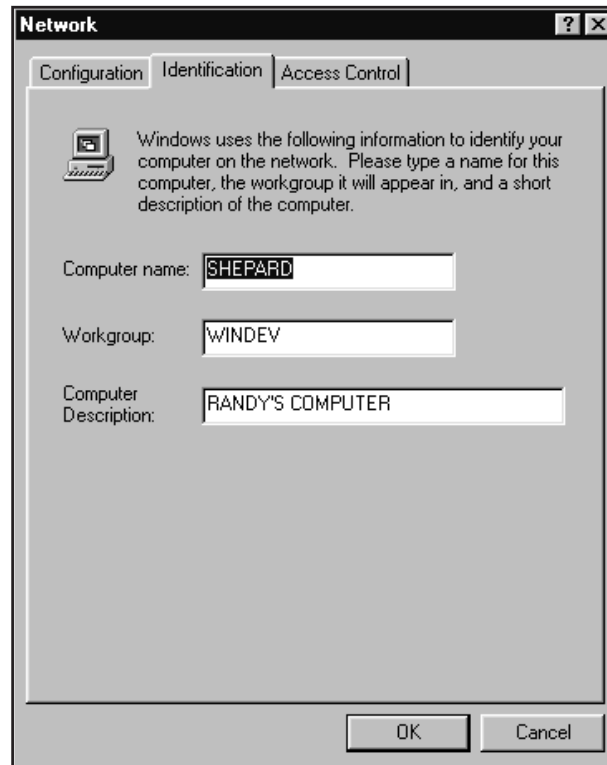

Figure 193 Network Settings - Identification
2. Select the Identification notebook tab in Network Settings to display the dialog shown in Figure 193.